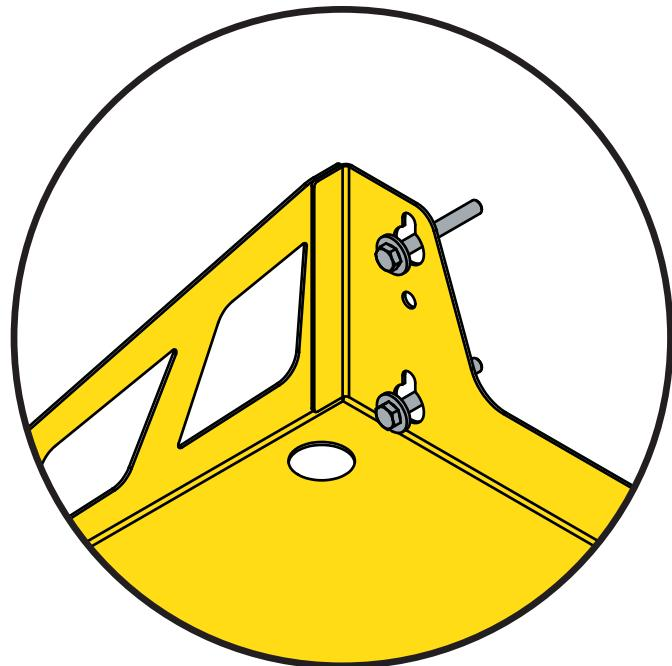

FIG. 6
6 Lift the Wall Bracket (F) up and over the fasteners so that the washer is on the inside of the bracket [FIG 6].